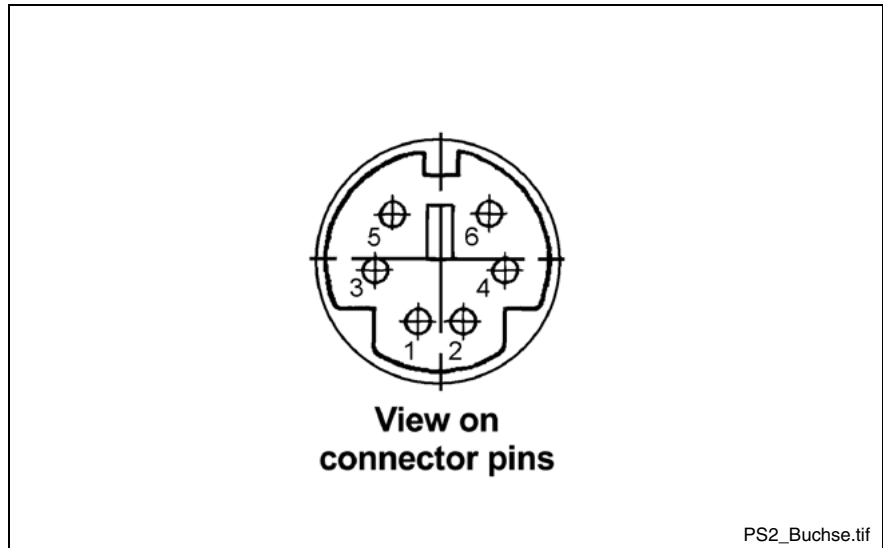

Fig. 6-1: Mini DIN PS/2 keyboard connector
- Fig. 6-1: Mini DIN PS/2 keyboard connector 6-1